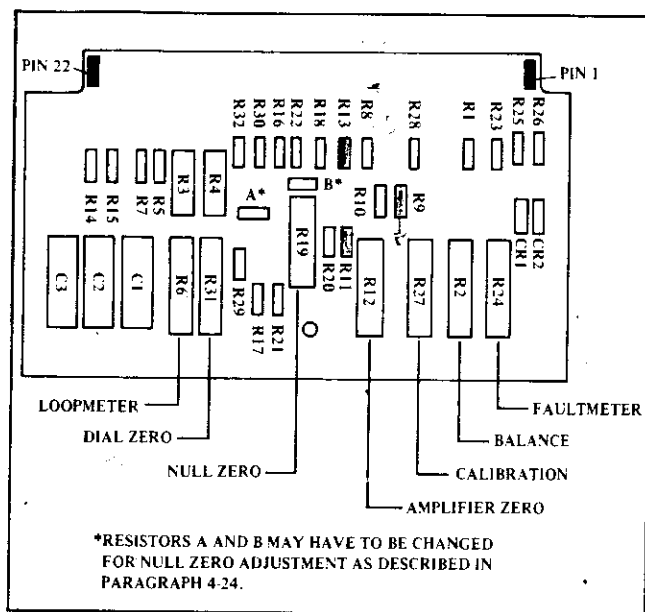

Figure 4-2. Control Module (A5) Component Identification (Dynatel Part No. 9010-0014)
A5 is the only printed circuit assembly in the Model 710A. For circuit component locations, see Figure 4-2.
- If the null zero adjust is set fully clockwise and the meter indicator is still on the LOOPMETER side of null, then install a 150 K ohm $\pm 2\%$, $\frac{1}{4}$ watt metal oxide film resistor in position "A" (shown on Figure 4-2), and readjust the null zero for approximately null on the meter.
- If the null zero adjust is set fully counterclockwise direction and the meter is still on the FAULTMETER side of null, then install a 150 K ohm $\pm 2\%$, $\frac{1}{4}$ watt metal oxide film resistor in position "B" (shown on Figure 4-2), and readjust the null zero for approximately null on the meter.